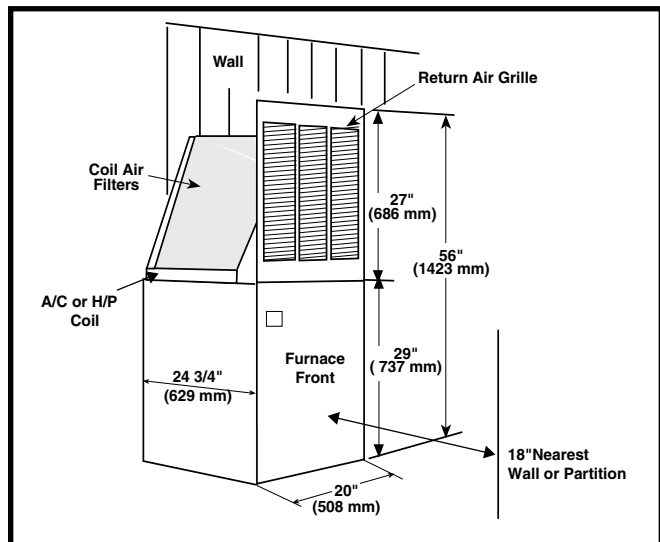

Figure 13. Alcove Installation
1. Cut alcove rough openings to minimum dimensions shown in Figure 13.